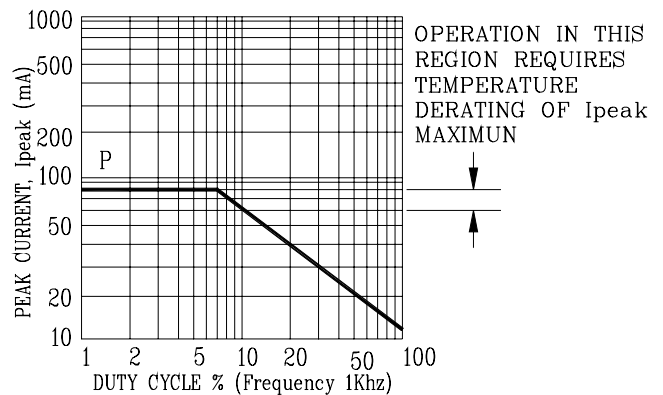

Fig5. Maximum Peak Current vs. Duty Cycle %
* see figure 5 to establish pulsed condition